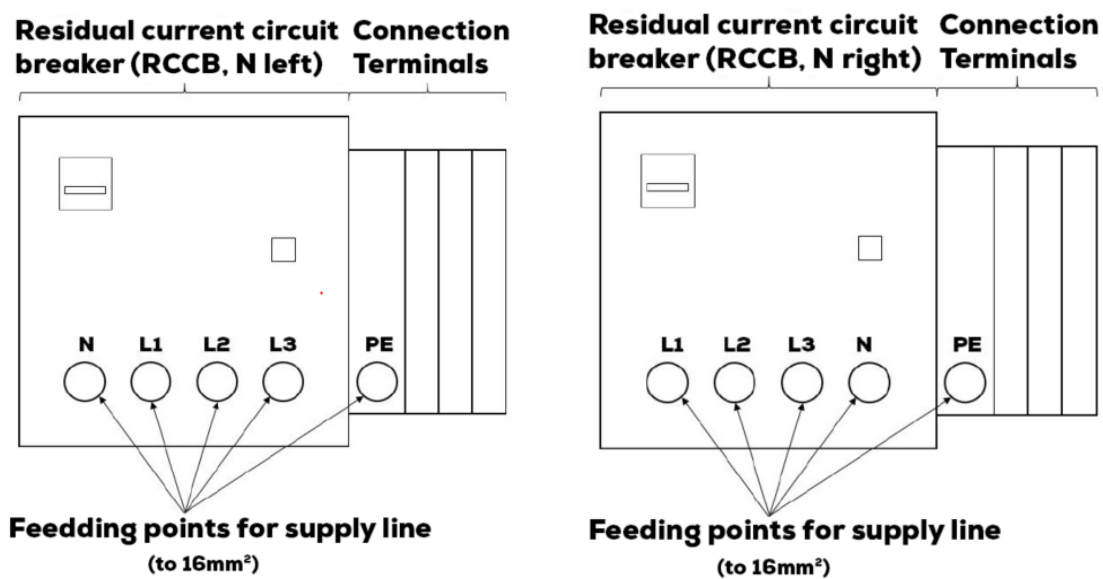

Figure 2 Connection position of the supply line
2. Connect the supply line as shown in Figure 2 and then relieve the strain and seal it using the cable gland.